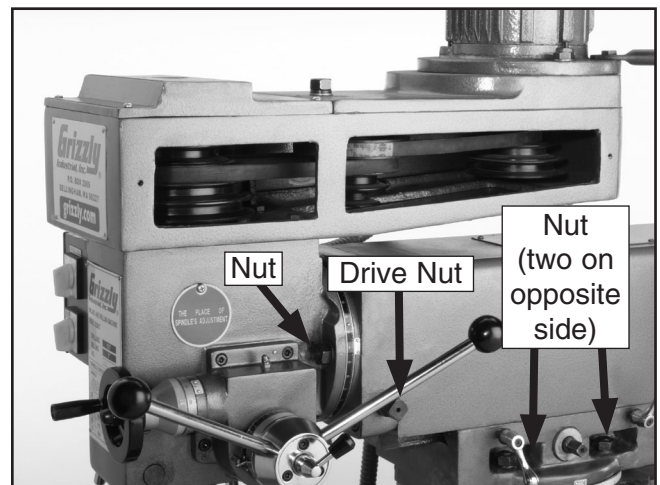

Figure 24. Vertical and horizontal rotation components.
4. Rotate the drive nut (**Figure 24**) either clockwise or counterclockwise until the spindle is in the desired position. There is a graduated scale on the spindle to aid in setting the angular position.
2. Using a wrench, loosen the four nuts at the top of the mill base. (**Figure 24**)